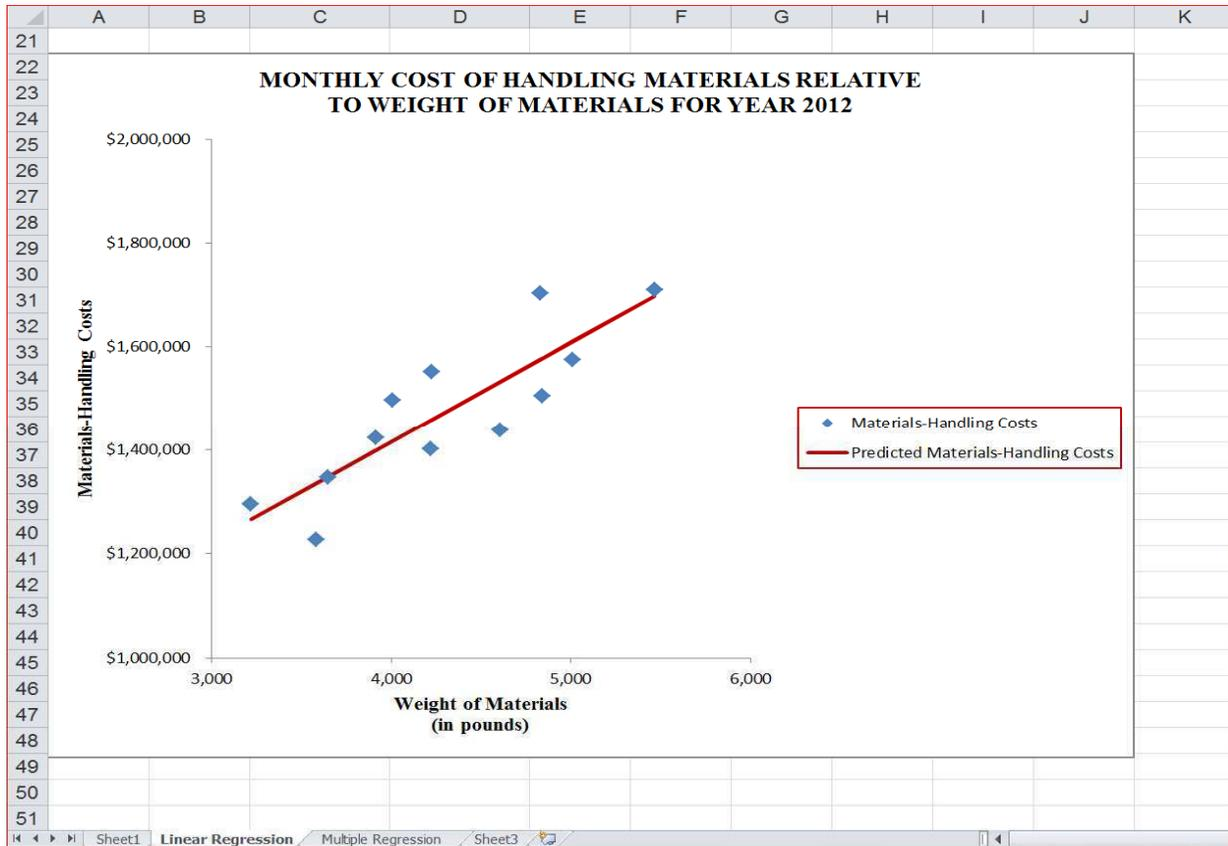

Figure 8
- After completing the above steps, view the modified regression chart. It should look like the one shown in Figure 8. If it does not, repeat one or more of the above steps in order to make the necessary changes. In your chart, the individual markers (i.e., symbols) represent the observed values of Materials-Handling Costs. The straight line represents the values along the regression line (i.e., the predicted values of Materials-Handling Costs).